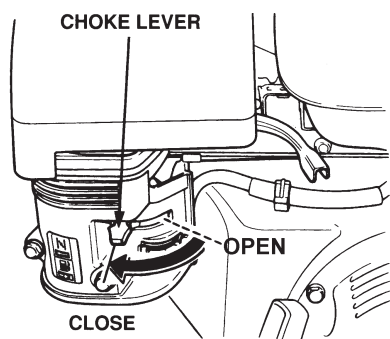

Figure 20. Choke Lever
- Place the **Choke Lever** (Figure 20) in the "**CLOSED**" position.